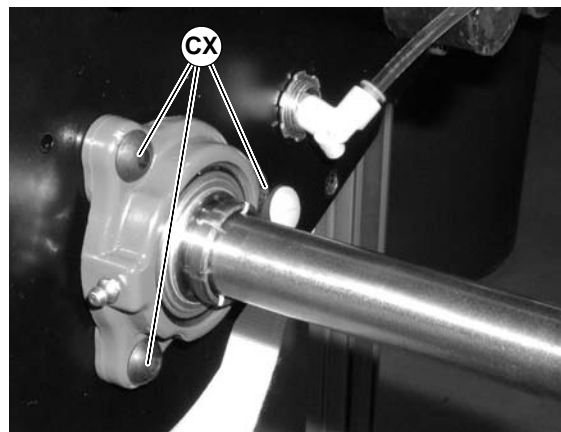

Figure 88
- Tighten three (3) mounting screws (CX of Figure 88) to 200 in-lbs (22.5 N-m).